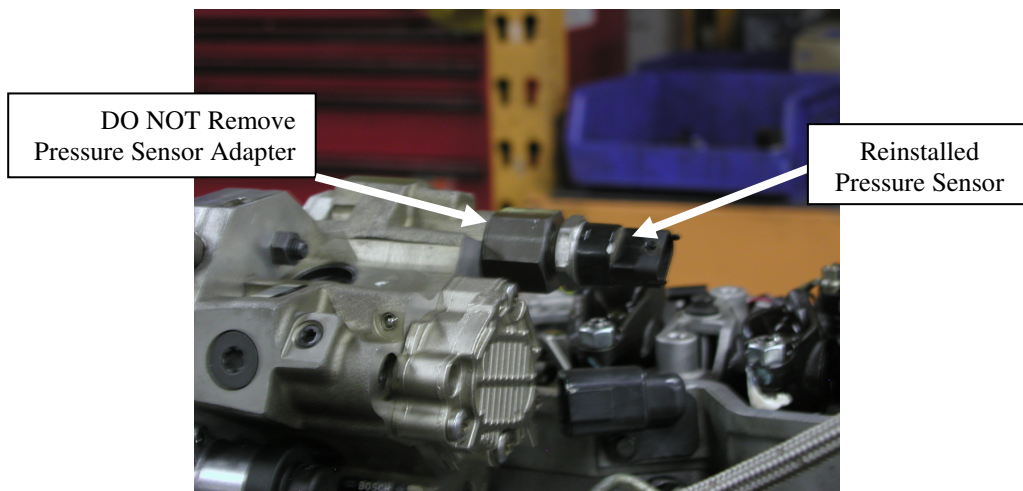

Figure 6: Pressure Sensor Reinstalled in Pump Fitting
14. The new pump comes with a fitting already installed on the rear to accept the pressure sensor. Place a small amount of grease (Polylube, Transjel or equivalent) on the sealing surface of the pressure sensor. Thread the sensor into this location, (Figure 6). Lightly tighten the sensor with a 1-1/16" wrench. Then, using a deep socket and a backing wrench, torque the pressure sensor to **80 ft-lbs**. **If backing wrench is not used, it is possible to strip the threads out of the CP3 pump. ATS is not responsible for replacing the pump if the threads are damaged.**